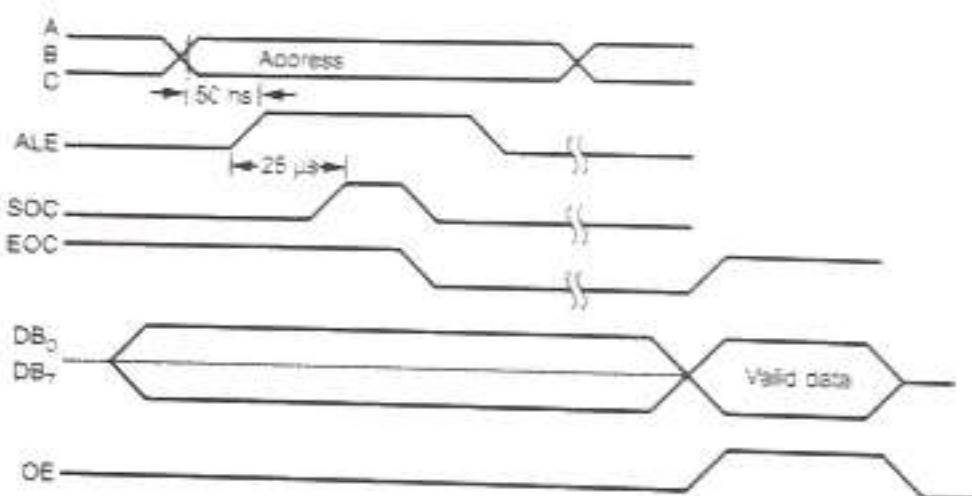

Fig. 3.6.2 Timing waveforms for ADC 0808
- The microprocessor system can read converted digital word through data bus enabling the output enable signal after EOC is activated. This is illustrated in Fig. 3.6.2.